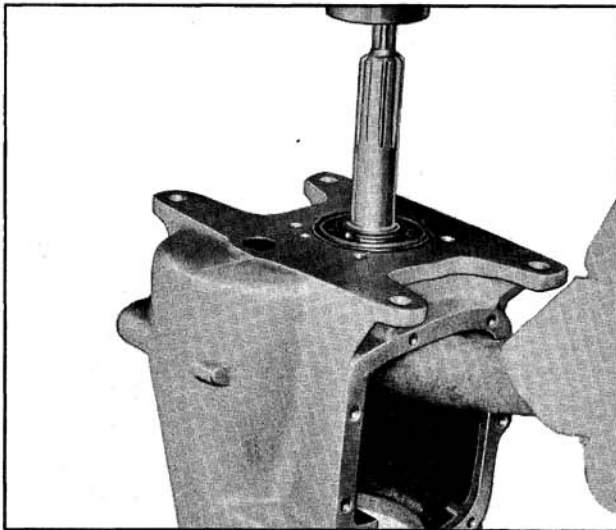

Fig. 7-61 Removing Main Drive Gear
11. Press main drive gear down from front bearing. (Fig. 7-61)